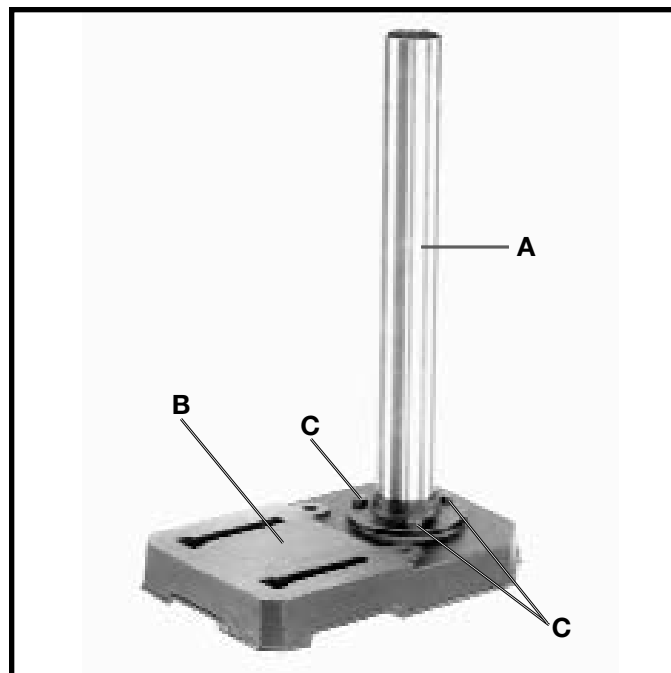

Fig. 3
1. Assemble the column (A) Fig. 3, to drill press base (B) as shown, using the three 20mm (3/4" long) hex head cap screws (C).